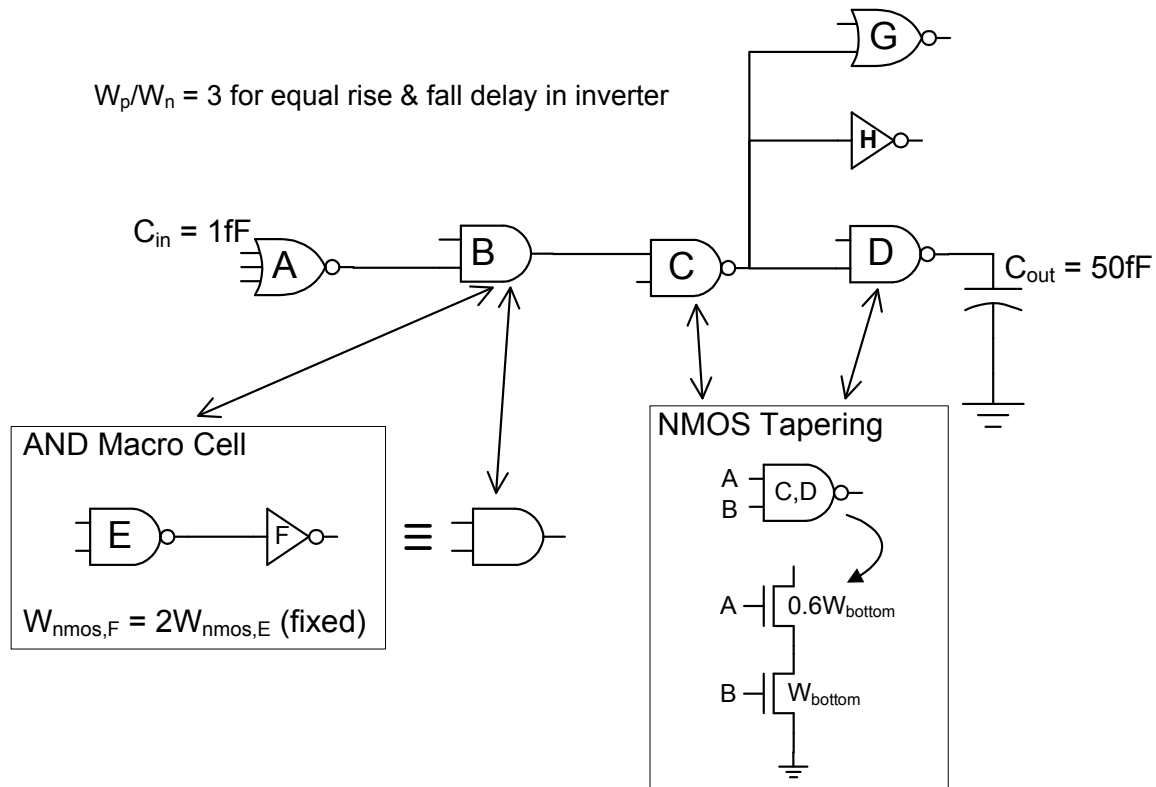

Figure 1. Circuit for Problem 1.0.
Consider the circuit shown in Figure 1. Assume that the effective P/N ratios of all gates is 3 and a P/N ratio of 3 in an inverter results in equal rise and fall delays. The intrinsic delay of an inverter $p_{inv} = 1\tau$. Assume that the branch gates G and H are sized for equal stage effort with their corresponding on-path gate, D (and they have the same total output capacitance). Note that the 2-input NAND gates, C and D, have tapered NMOS stacks while all other gates are *NOT* tapered (including the 2-input NAND gate within the AND macro cell). Finally, note that the inverter and NAND gate inside the macro cell have a fixed size ratio relative to each other.
1.2 (4 Points) Find the path effort, F , for the path shown in Figure 1 and calculate the minimum delay using optimal gate sizing. Add extra inverters to the circuit to minimize the delay, if needed (refer to Table 2). Make sure the functionality of the circuit does not change.